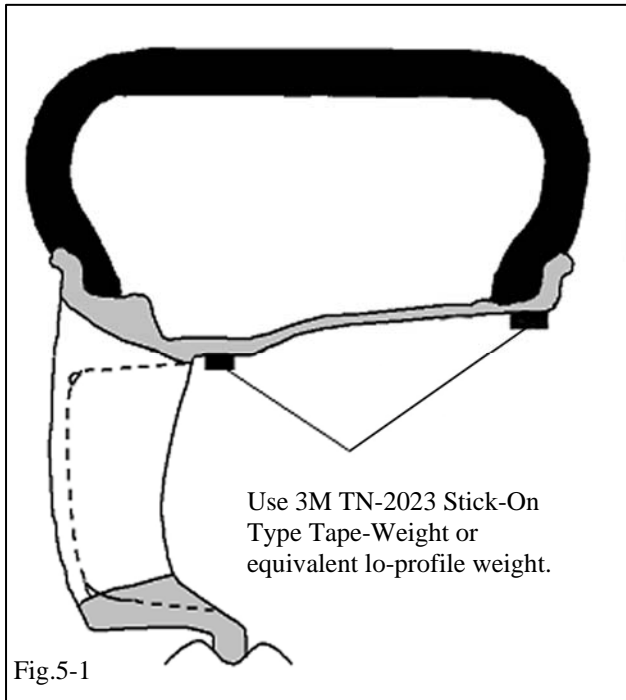

Fig.5-1
- (a) Mount wheel/tire on wheel balance machine and balance in DYNAMIC MODE. Enable the LOAD ROLLER, if applicable, to ensure proper bead seating. Use **3M TN-2023** or equivalent lead-free stick-on type weights. (Figs. 5-1 & 5-2)